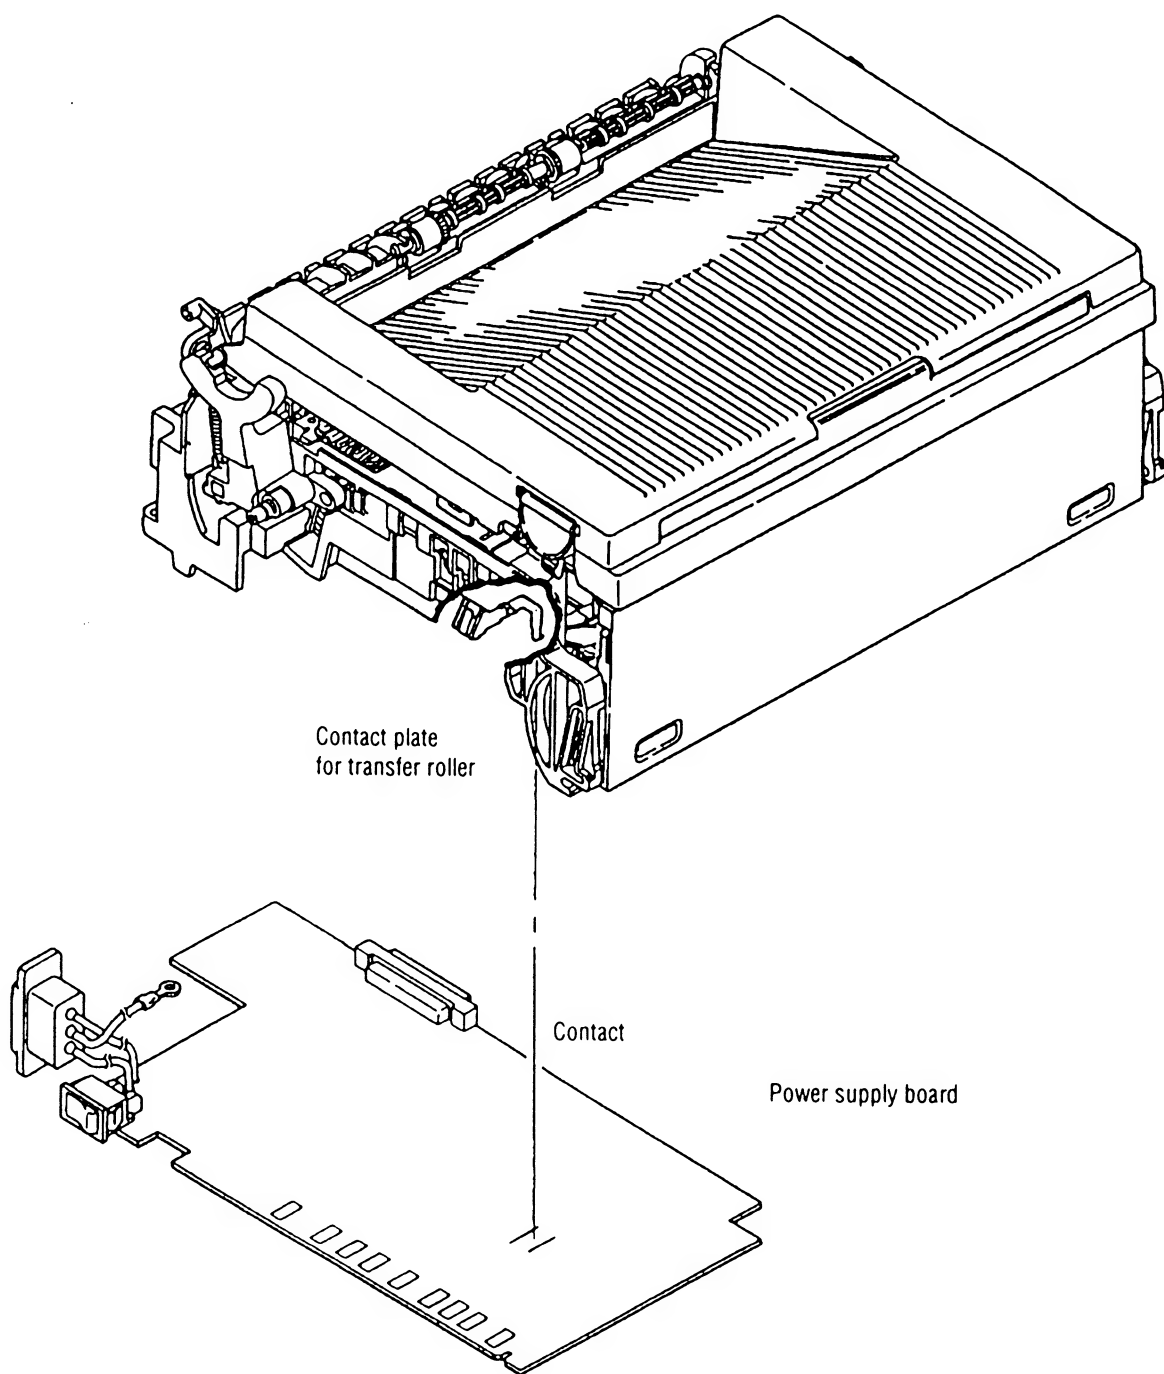

Figure 6-5
• Is the contact plate of the transfer roller in proper contact with the power supply board (see Fig. 6-5)?